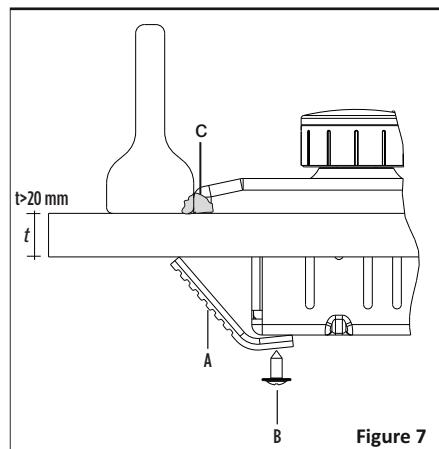

Figure 7
- Insert the appliance into the aperture and fix in position via the brackets (A) and screws (B). Adjust the position of the brackets depending on the thickness of the worktop as indicated in Figure 7 and tighten the screws evenly.